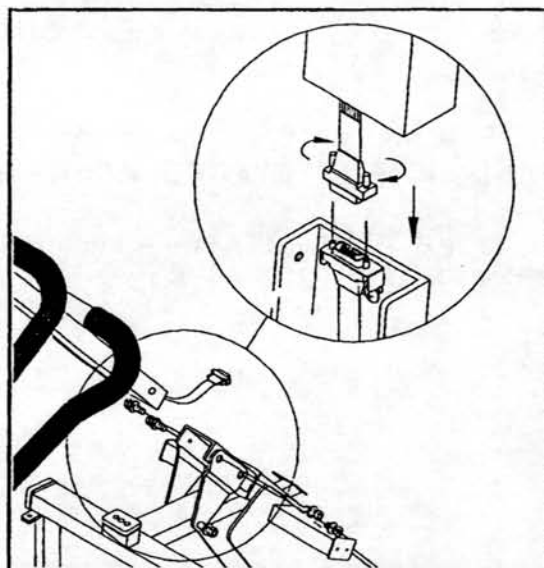

Fig.1-5
- b. If the display is still blank, make sure the UPPER RIBBON CABLE from the UPRIGHT COLUMN (handlebar support) is plugged and secured by two screws firmly. (see Fig. 1-5)
2. If the display is still blank, make sure the 16 PIN UPPER RIBBON CABLE from the UPRIGHT COLUMN (handlebar support) is plugged and secured by two screws firmly. (see Fig. 1-5)
2. If the display is still blank, make sure the UPPER RIBBON CABLE from the UPRIGHT COLUMN (Handlebar Support) is plugged and secured by two screws firmly. (see Fig.1-5)